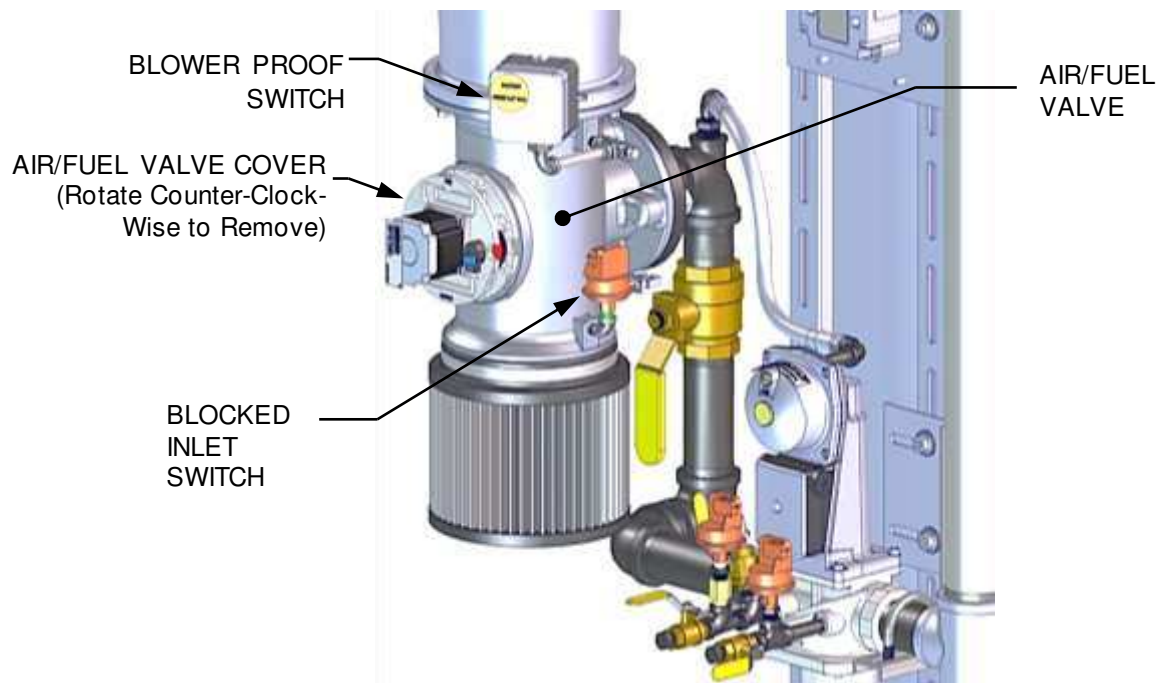

Figure 5-10: Air/Fuel Valve Cover Location – BMK1500 Shown
4. Remove the Air/Fuel Valve cover by rotating the cover counterclockwise to unlock (Figure 5-10).
4. Remove the Air/Fuel Valve cover (Figure 5-10, above) by rotating the cover counterclockwise.